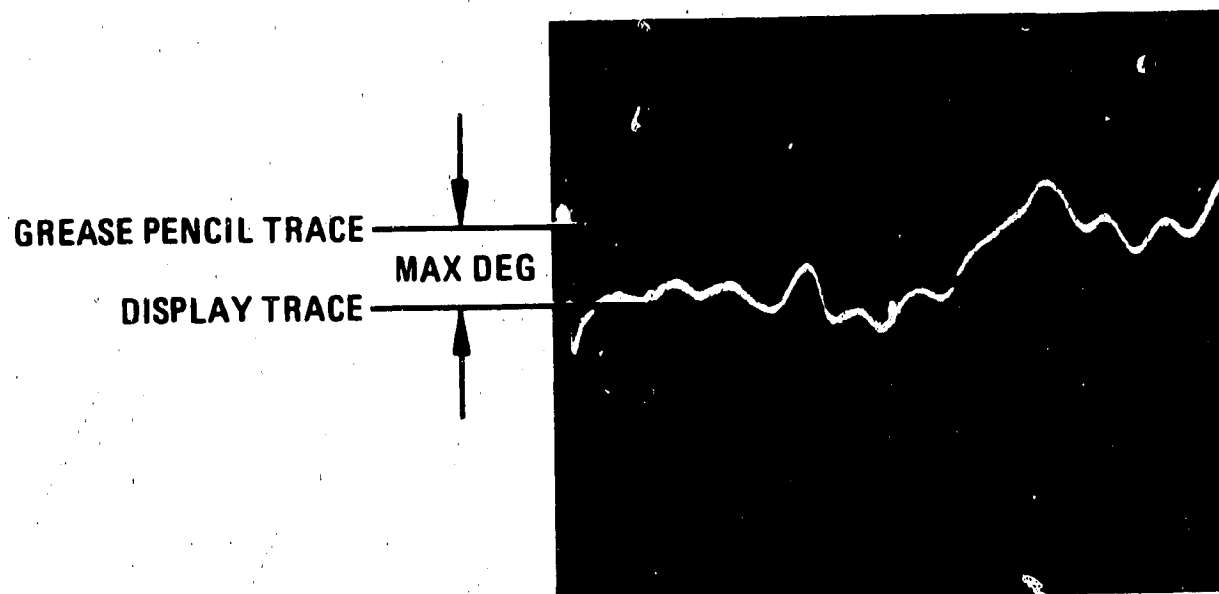

Figure 4-6. Reflection Frequency Response Phase
- (1) On 8505A Signal Processor, press the LENGTH Pushbuttons and adjust VERNIER A control to position average slope of trace parallel to horizontal graticule lines.
- (2) On 8505A Signal Processor, press Channel 2 MKR then ZRO pushbuttons.
- (3) On 8505A Signal Processor, press Channel 2 REF OFFSET pushbuttons to center the display around the grease pencil trace.
- (4) Measure the maximum difference between the grease pencil trace and the display trace (Figure 4-6). This measured value should be $\leq \pm 20^\circ$ for the 0.5 to 1300 MHz frequency range.
- (1) Repeat steps l (1) through l (3).
- (2) Measure the maximum difference between the grease pencil trace and the display trace (Figure 4-6). This measured value should be $\leq \pm 15^\circ$ for the 2 to 1300 MHz frequency range.
- (3) Connect 8503B port B to 8505A INPUT A. Set S-PARAMETER SELECT switch to REVERSE and repeat steps l (1) through l (3).
- (4) Measure the maximum difference between the grease pencil trace and the display trace. This measured value should be $\leq \pm 15^\circ$ (2 to 1300 MHz).
- (5) Remove grease pencil trace from CRT.